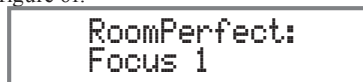

Figure 61
1. Press the TRIM Push-button until "RoomPerfect: Focus 1" appears on the Front Panel Display. Refer to figure 61.